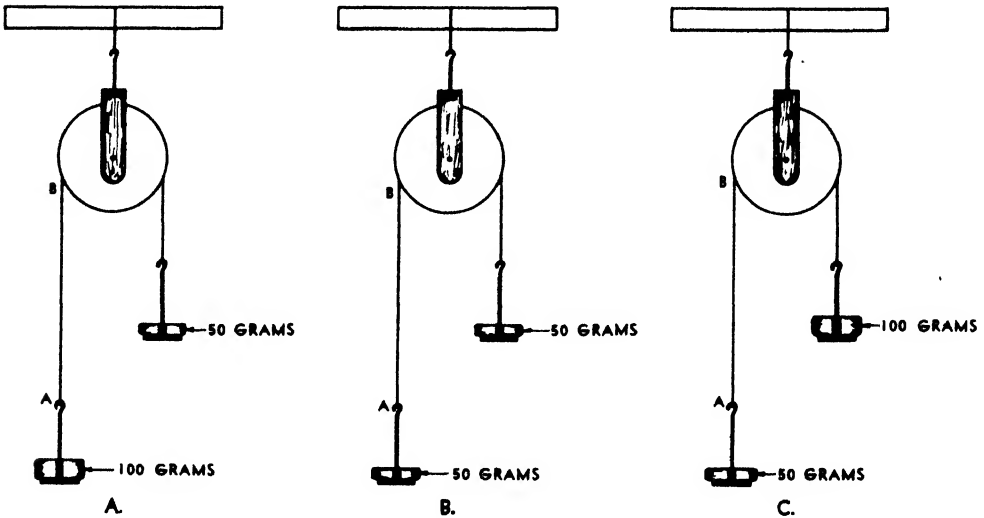

FIG. 207. COINCIDENT FORCES.
in Fig. 207 A, B and C. Considering the coincident forces acting on the string AB, what is the magnitude and direction of the resultant of the forces acting in (A) ? in (B) ?